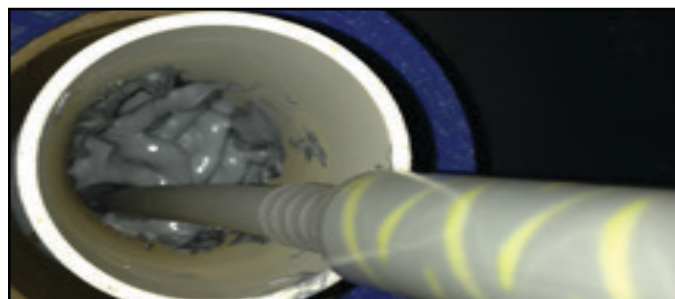

Figure 3
(See Figure 3)
Platform Frame & Pump/Motor/Nozzle Assembly (See Figures 3 & 4)
STEP 3: Take pvc sleeve and fill half way with epoxy. Push wires all the way to the bottom to ensure crimps are covered with epoxy. **(See Figure 3)**